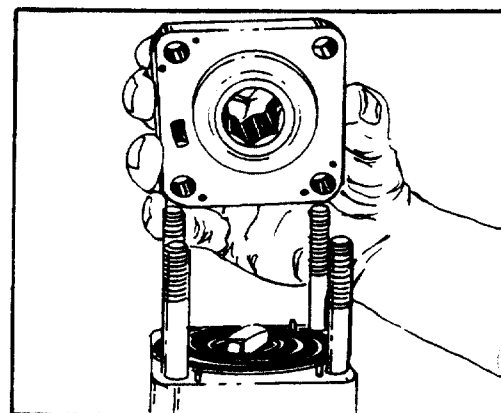

FIGURE 17.
19. Remove the isolation manifold (15), (four plates bonded together). See figure 17.